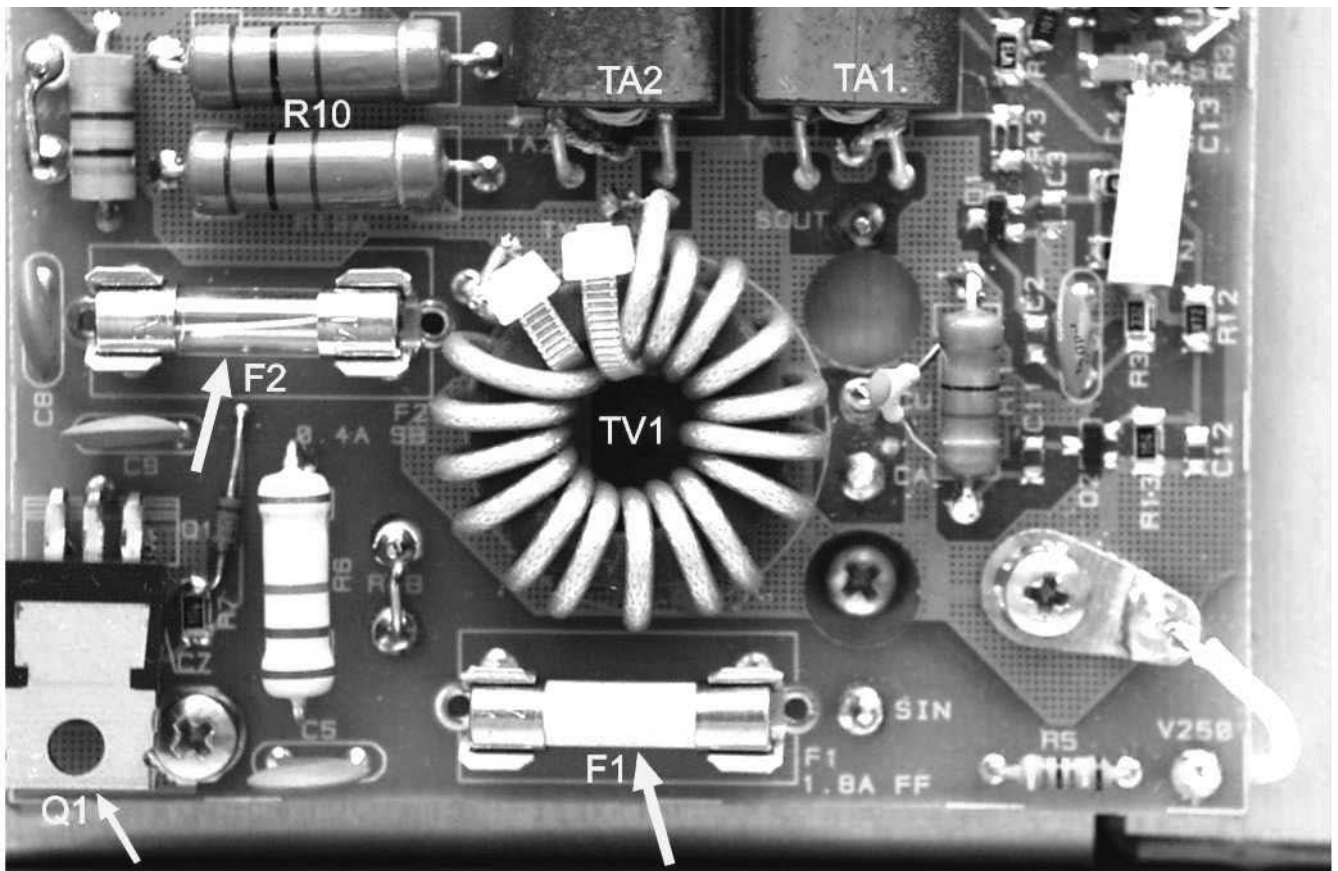

Fig.5-2 Fuses on the PCB "RF Sensor".
- in the remote unit, the fuse F2 at the RF-impedance sensor output has blown for some reason. To replace it, see S.5-2(c) and fig.5-2.
- in the remote unit, the fuse F1 at the RF-impedance sensor input has blown for some reason (then check F2 too). To replace them S.5-2(c) and fig.5-2.
c) The last two fuses in the remote unit are located on the "RF Sensor" PCB that is installed under a separate screen, located on the side closely to the RF input connector (look at the vertical cover at the left corner on fig.2-2). To access these two fuses you have to unscrew all 8 screws M3x8mm (fig.2-2,i) and to remove this screen. You will see the PCB "RF Sensor" under the screen with two fuses F1 & F2 on it (see fig.5-2).